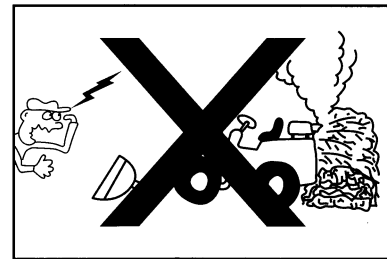

Figure1-29
- Choose the parking place carefully and keep hot parts of the loader far away from combustibile materials. (Figure 1-29)